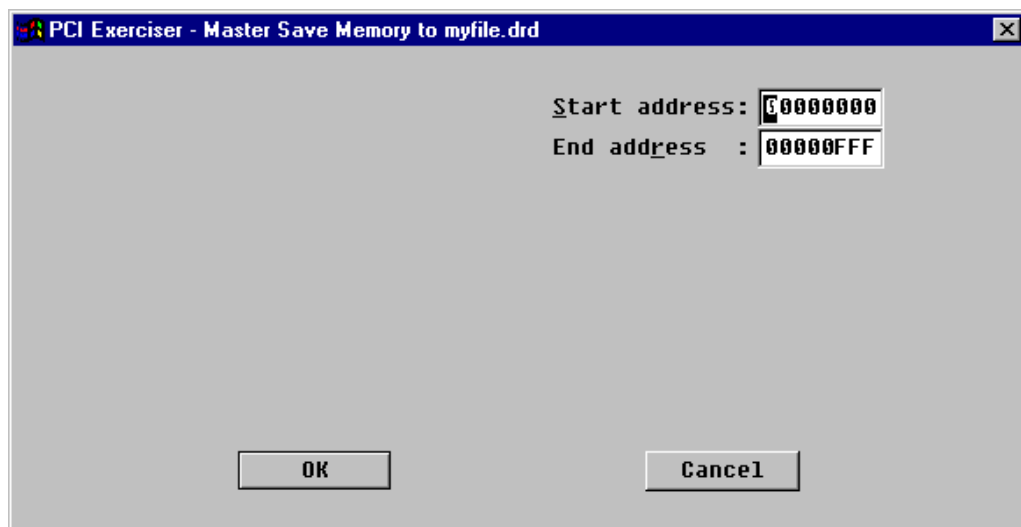

Figure 6.43 Master Save command
- In the above example (see Figure 6.43), the PCI Exerciser will perform Memory Read cycles on the PCI bus, from start address 0x0 to end address 0xFFFF (inclusive), and save the data to the file "myfile.drd".